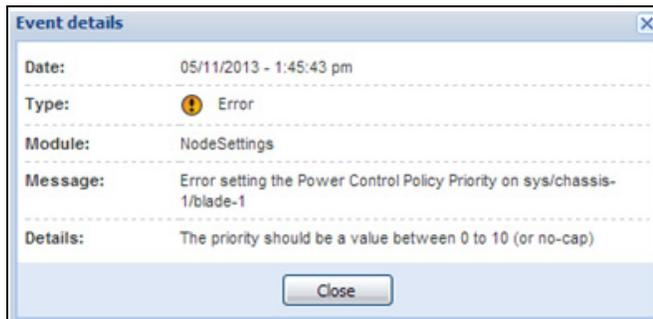

Figure 152. Wrong Power Budget Set
- A wrong value has been set for the power budget (see Figure 152).